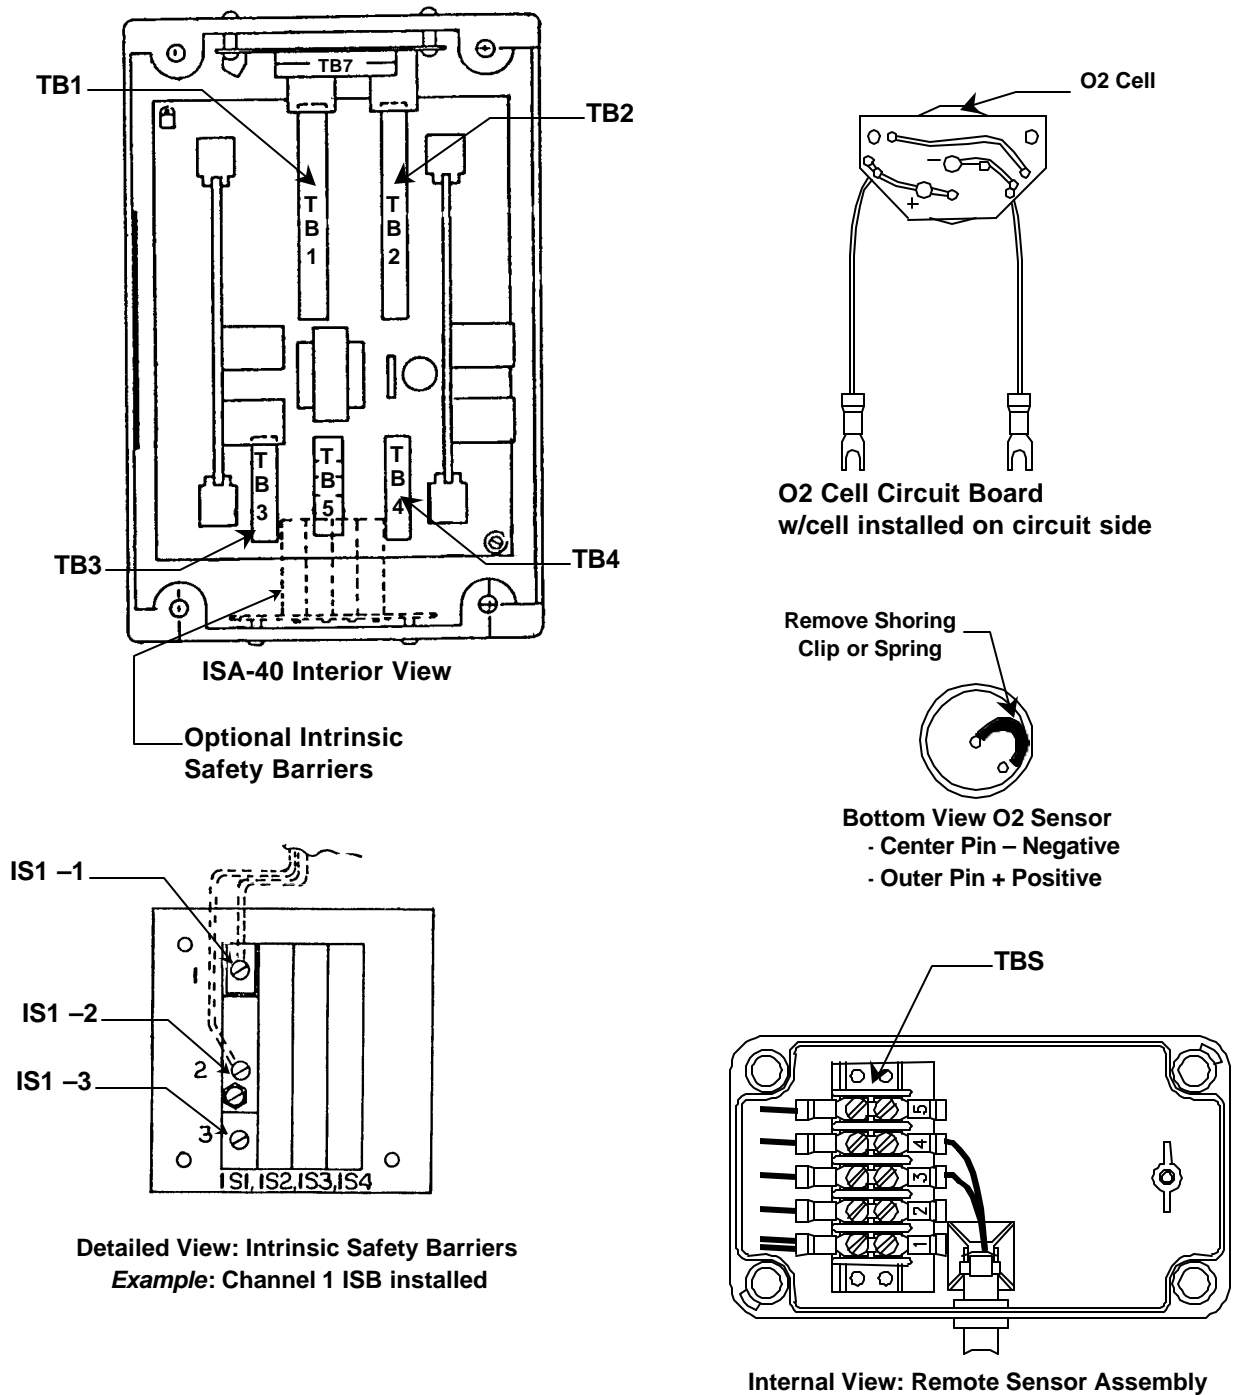

Figure 4: Interior View of Sensor Assembly
See Figure 4 for location of terminal blocks and optional intrinsic safety barrier.
7. Remove the metal shorting clip(or spring) from the cell. See Figure 4.
WARNING: If an intrinsic safety barrier is used, the barrier *Must* be the junction between the oxygen cell and the sensor connection o the ISA-40 motherboard. See the wiring information Table 2A and Figure 4.